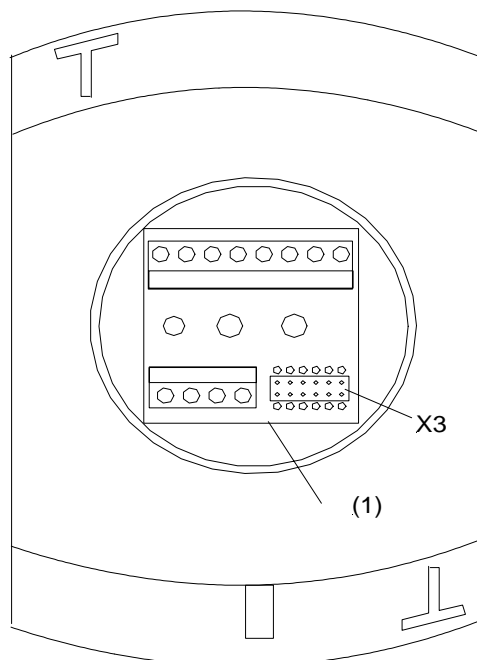

Fig 2: Rear view with snapped-in connection board (1)
- snap connection board into bottom part of casing (see Fig 2).